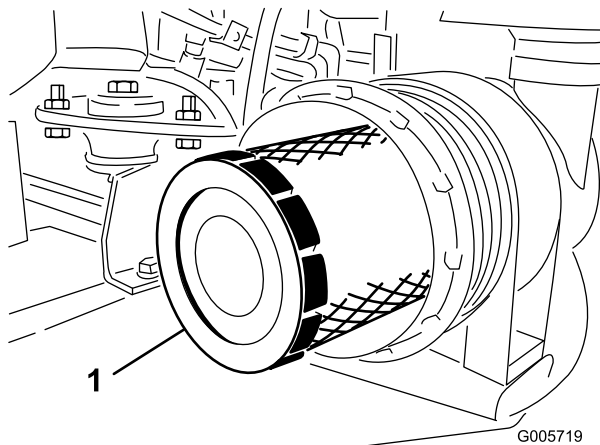

Figure 45
3. Remove and replace the primary filter (Figure 45). Cleaning of the used element is not recommended due to the possibility of damage to the filter media. Inspect the new filter for shipping damage, checking the sealing end of the filter and the body. Do not use a damaged element. Insert the new filter by applying pressure to the outer rim of the element to seat it in the canister. Do not apply pressure to the flexible center of the filter.